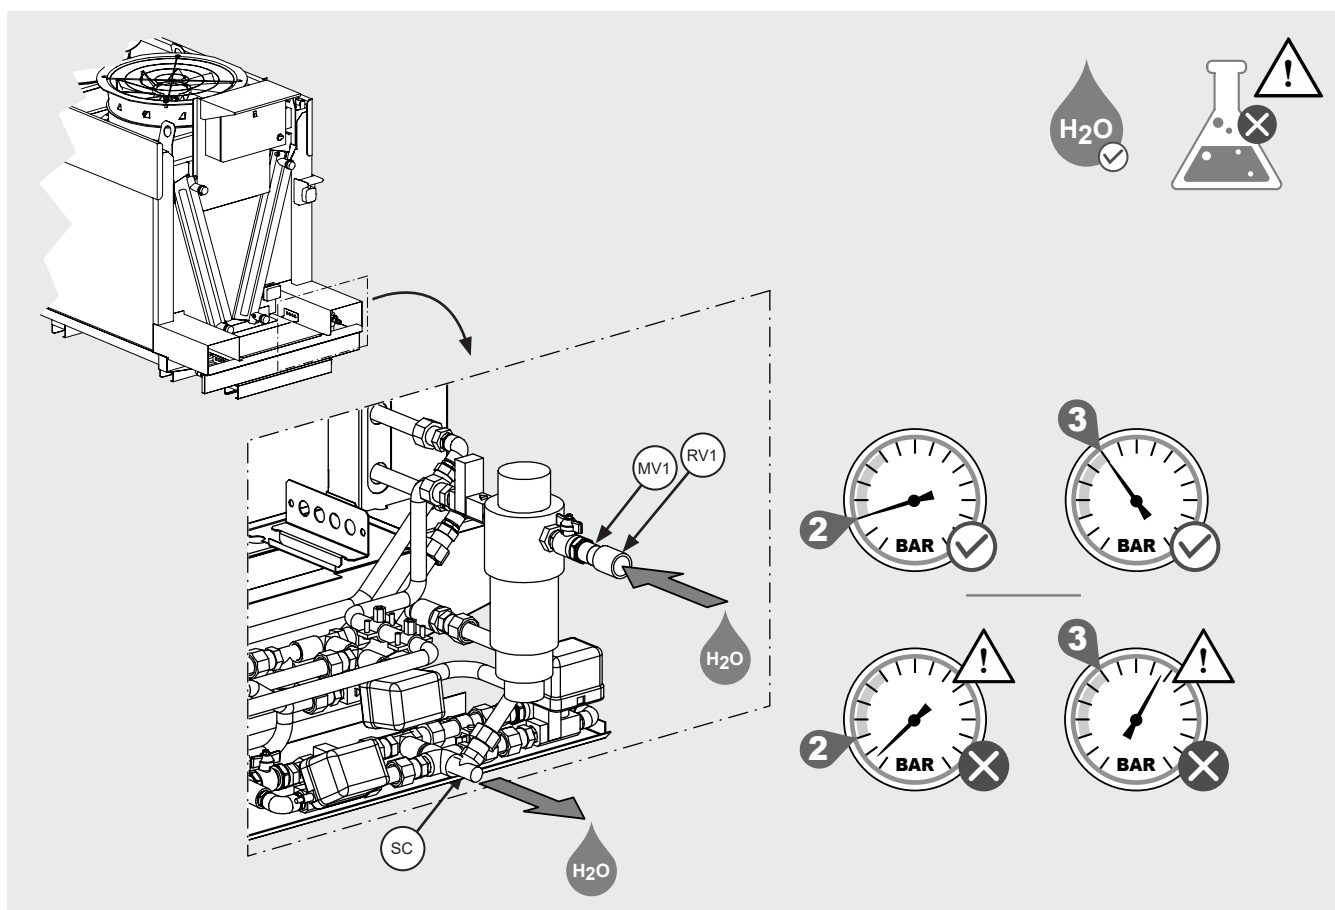

Figure 11
- 6.23 Connect the mains water line to the adiabatic system, see Figure 11: 1/2" GAS male connection on (RV1) Europa check valve connected to (MV1) manual ball valve. Check the value of the mains water pressure at the inlet to the adiabatic system: 2 bar min, max 3 bar recommended. Do not exceed the maximum recommended pressure value: risk of damage to the adiabatic system and potential danger to persons and property.
- 6.24 Connect the discharge pipe of the adiabatic system to the waste water treatment circuit or in any case according to current regulations see Figure 11: 1/2" GAS male connection on SC Tee.